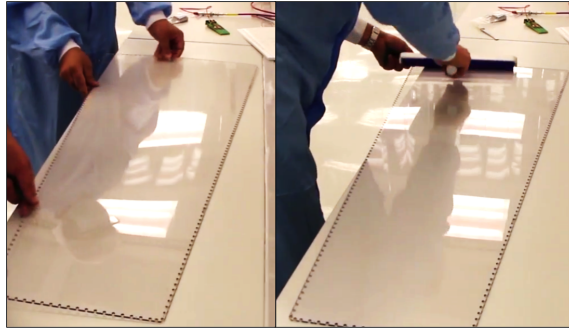

Figure 77: Cleaning the Plexiglas cover (1).
Step 1: First use the static roller to clean the table and the entire surface of the Plexiglas cover (Fig. 77).